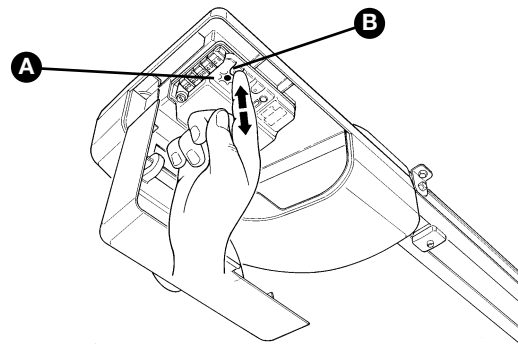

Figure 85
- 1 Press button P1 (figure 85) on the control unit as many times as the number corresponding to the desired command, according to the following table: